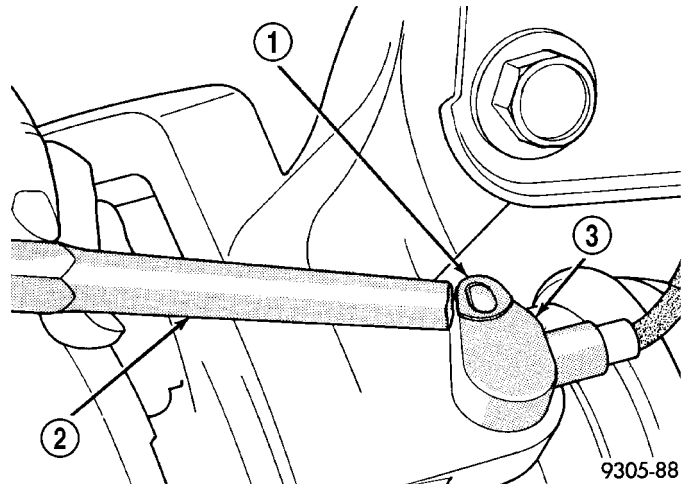

Fig. 4 Speed Sensor Head Removal
(4) Remove retainer, holding the speed sensor sealing grommet, from the inner fender. pull the grommet out, then unplug the speed sensor cable from the vehicle wiring harness
(5) Remove bolt attaching speed sensor to steering knuckle. Carefully remove speed sensor head from steering knuckle. If sensor is seized in place by corrosion, tap the edge of the sensor ear with a hammer and brass punch (Fig. 4), working it side to side.